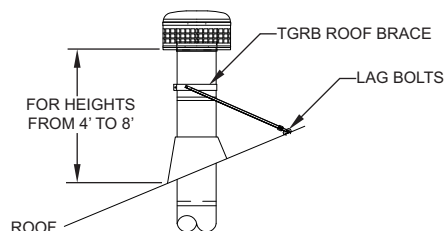
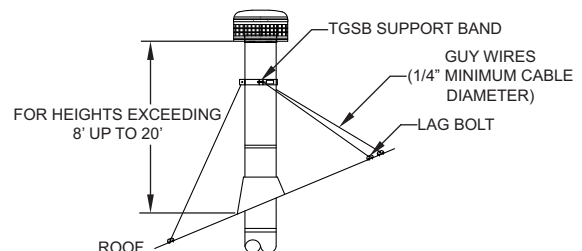

FIG. 23
FIG. 24
Select the proper support for your application, using either a roof brace (**FIG. 23**) or a support band with guy wires (**FIG. 24**)
3. Position the support legs as shown in **FIG. 23**. The length of the support legs can be adjusted by loosening the bolt on the leg clamp.